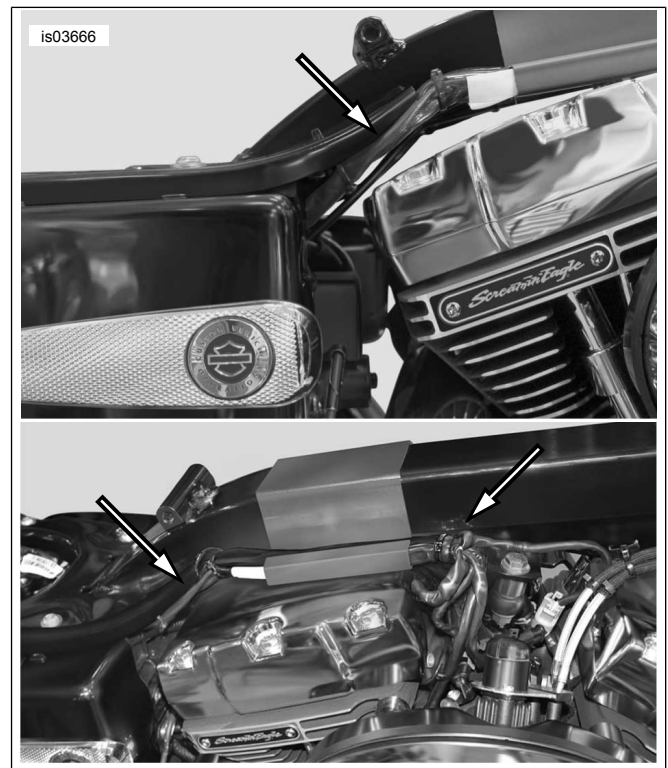

Figure 26. Cable Straps and Wire Routing (Dyna)
5. See Figure 26. Reinstall cable straps provided in kit in original locations and as otherwise necessary, ensure: